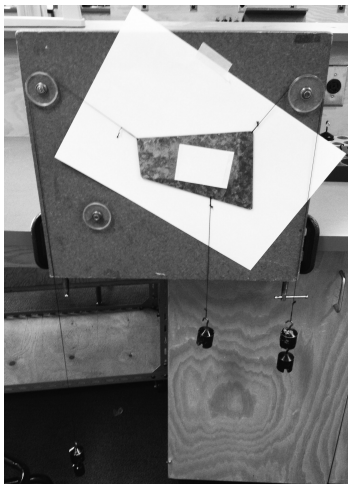

Figure 2: Vertical force board
5. Set up the force board (Figure 2) as directed by your instructor, clamping it securely to the bench. Using the strings and the masses supplied, **set up a system of three forces so that the plate is suspended in equilibrium near the centre of the force board**. Attach the two *longer* strings so they pass OVER the top pulleys. Attach the *shorter* string to the bottom of the plate so it HANGS VERTICALLY (i.e. NOT over a pulley) and is NOT close to being directly below the center of gravity of the plate. DO NOT TIE KNOTS - thread the strings through the holes in the plate and back upon themselves to secure them. Start with 200.g on the pulley strings & 100.g on the vertical string. Make certain all masses DO NOT touch the force board (i.e. hang freely) and that EACH string has AT LEAST 100.g attached to it. Add mass as needed to (roughly) center the plate on the force board. AVOID USING MANY SMALL (<50.g) MASSES.